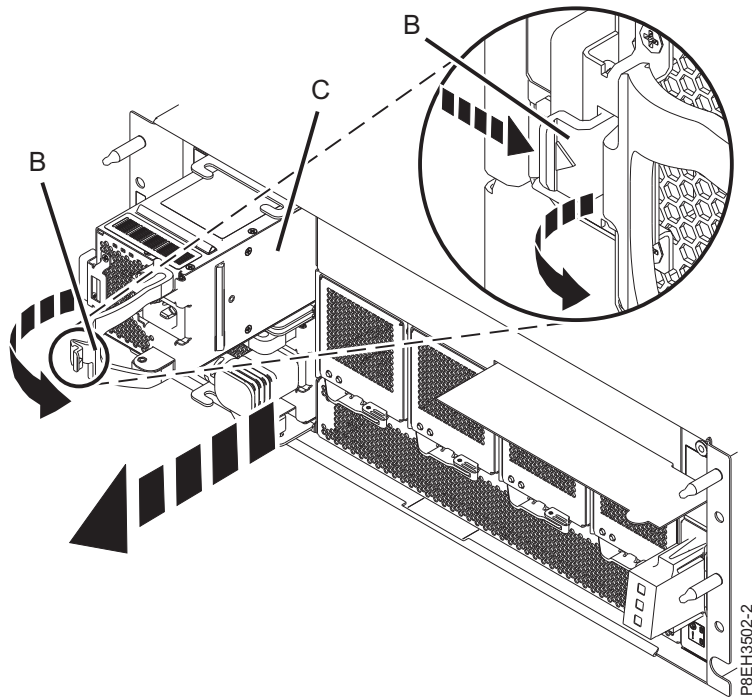

Figure 5. Removing the power supply from the EMX0 PCIe3 expansion drawer
3. To unseat the power supply (C), push the release latch on the handle (B) in the direction shown and pull out the handle toward you. See Figure 5.
4. Hold on to the handle (B) and by using your hand to support the bottom of the power supply (C), pull out the power supply from its slot. See Figure 5.